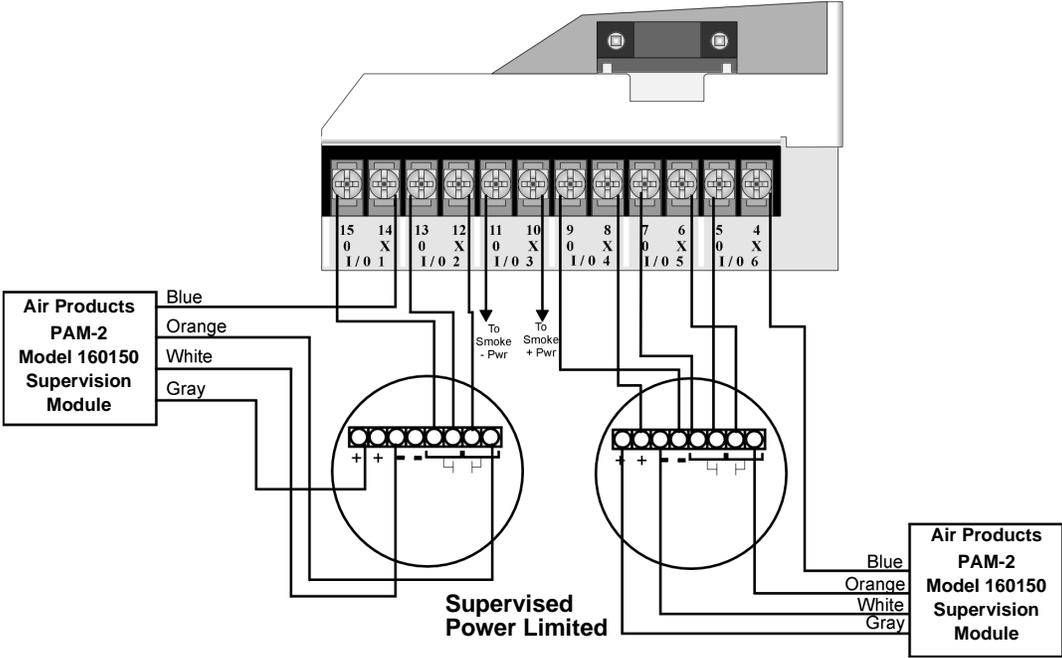

Figure 4-44 Class A 4-Wire Smoke Detector Connections
Figure 4-44 illustrates how to install 4-wire Class A detectors.
- 2. Smoke power is supplied to each Class A loop as shown in Figure 4-44.
Note: In programming any point that uses multiple Flexput circuits are always referred to as the lowest Flexput circuit number used. For example, Figure 4-44 uses Flexput circuits 1, 2, 3 together and 4, 5, 6 together. In programming (1, 2, 3) would be referred to as point 1, and (4, 5, 6) would be referred to as point 4.